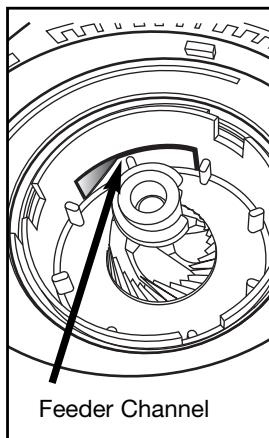

Fig. 8
4. Check the feeder channel (Fig. 8) for coffee build up and use the small brush to push any build up into the ground coffee container.